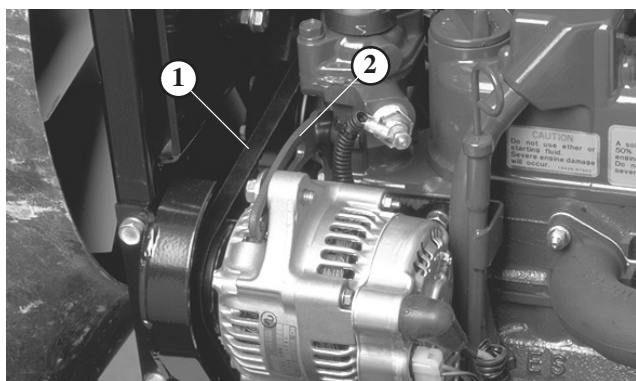

Figure 55
2. Check tension by depressing belt (Fig. 55) midway between alternator and crankshaft pulleys with 22 lb. of force. Belt should deflect 7/16 in. If deflection is incorrect, proceed to step 3. If correct, continue operation.
3. Loosen bolt securing brace to engine (Fig. 55) and bolt securing alternator to brace.